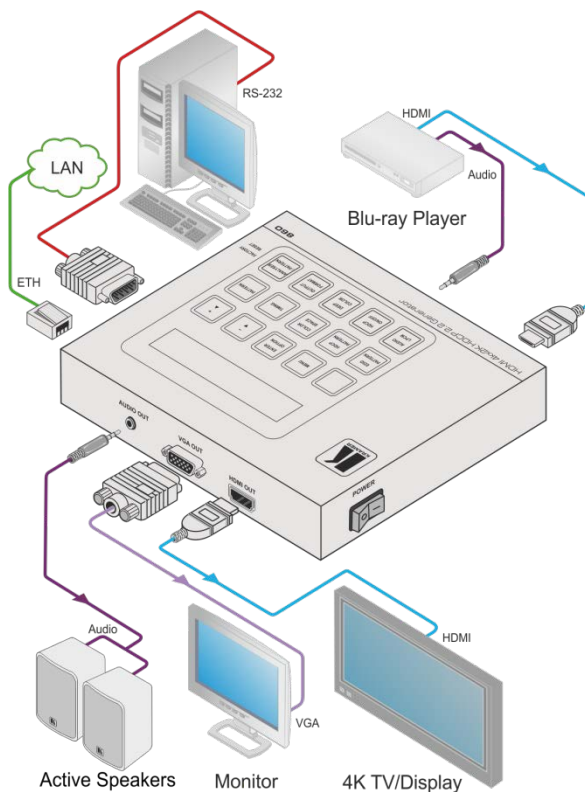

Figure 4: Connecting the 860 HDMI 18G Signal Generator & Analyzer
To connect the **860**, as illustrated in the example in Figure 4, do the following:
8. Connect the power cord (not shown in Figure 4).